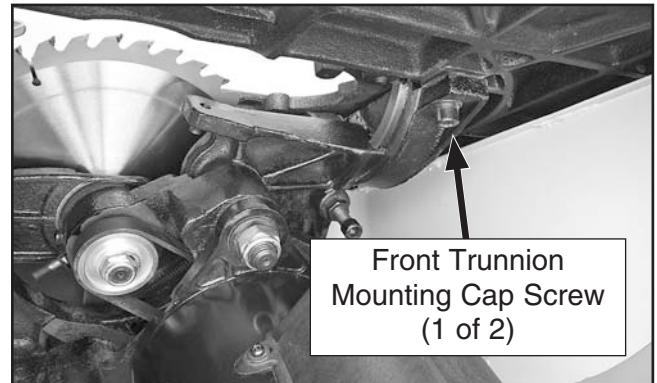

Figure 107. Front trunnion mounting screw.
9. Loosen the two cap screws that secure the front trunnion to the underside of the table (see **Figure 107**) and tap the trunnion in a similar manner as you did in **Step 7**.